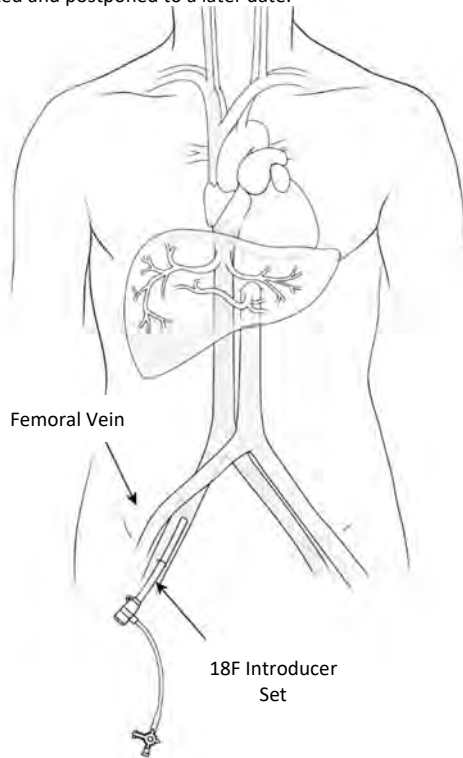

Figure 24
- (a) Using Seldinger technique and standard fluoroscopic and angiographic techniques, place the 18F introducer sheath into the femoral vein after serial dilation with 9F and 13F dilators. The venous sheath may be placed ipsilateral or contralateral to the 5F femoral arterial sheath placement, see Figure 24. Flush the sheath with sterile heparinized normal saline. Use of sonographic guidance and a single anterior wall puncture of the femoral vein over the femoral head are required so as to assure compressibility of the vein when the sheath is removed. If a supra-inguinal puncture is inadvertently made, the procedure must be aborted and postponed to a later date.